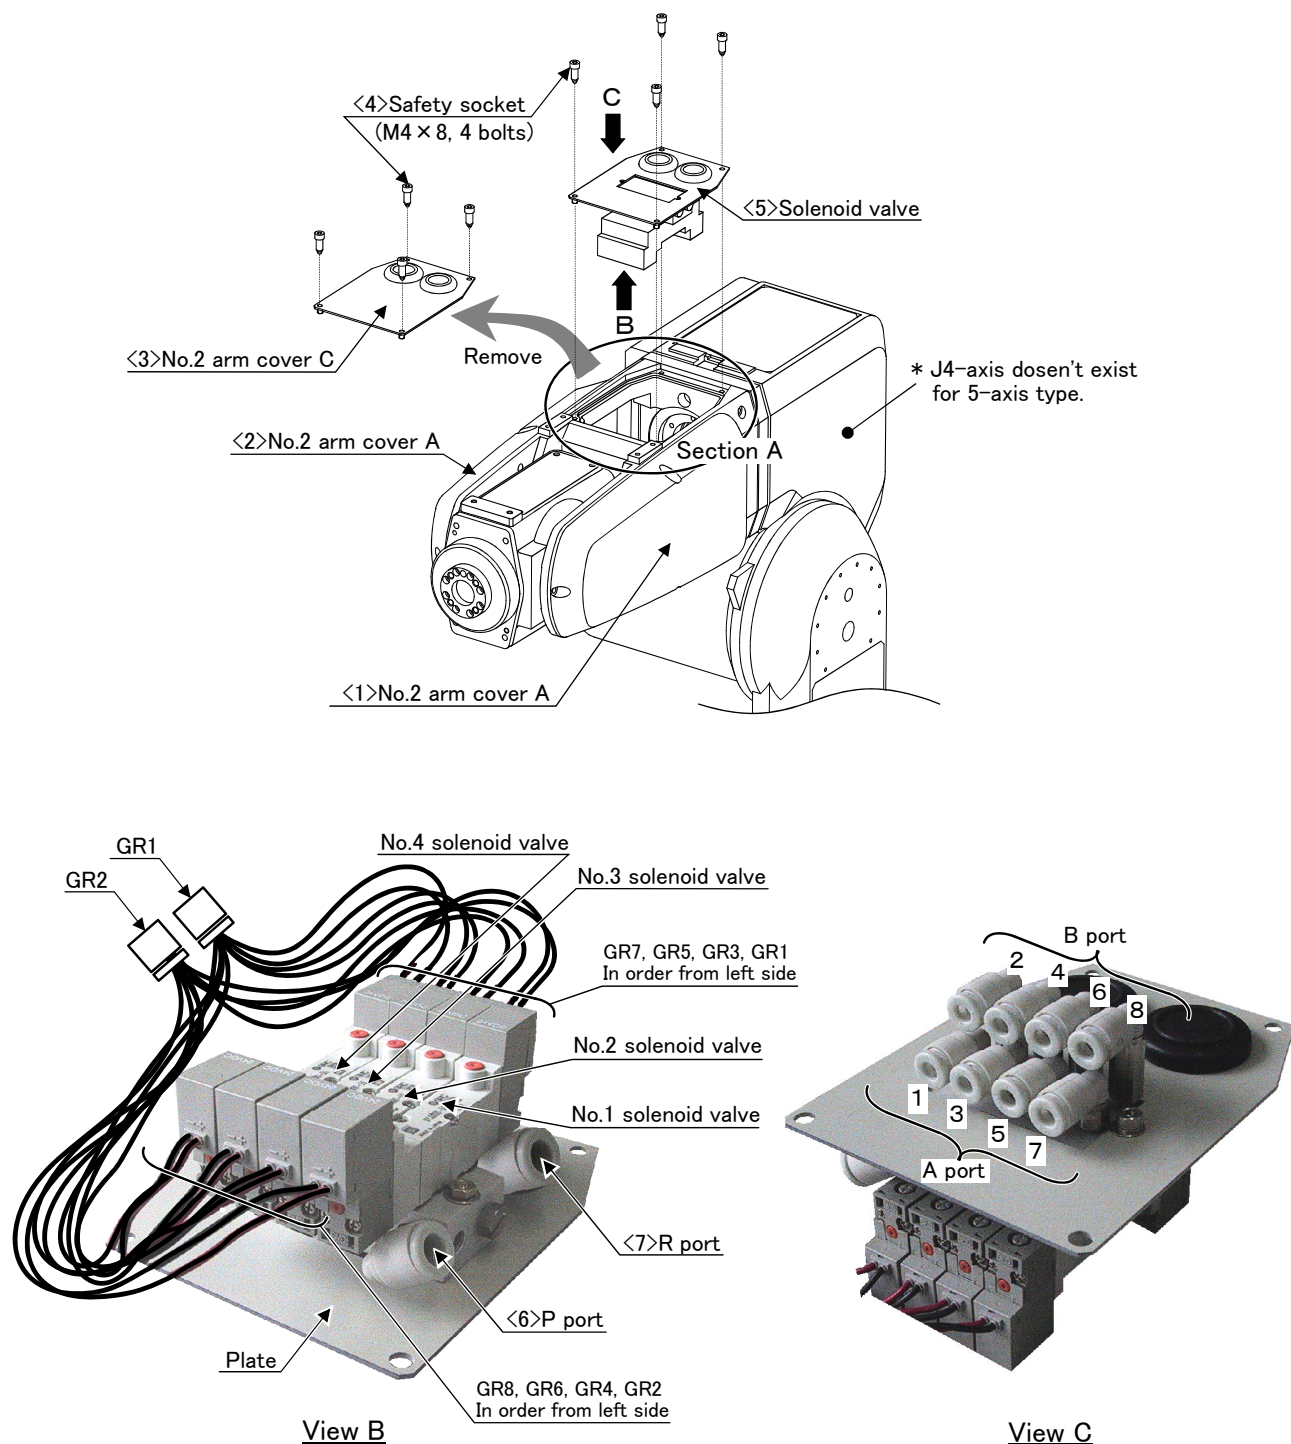
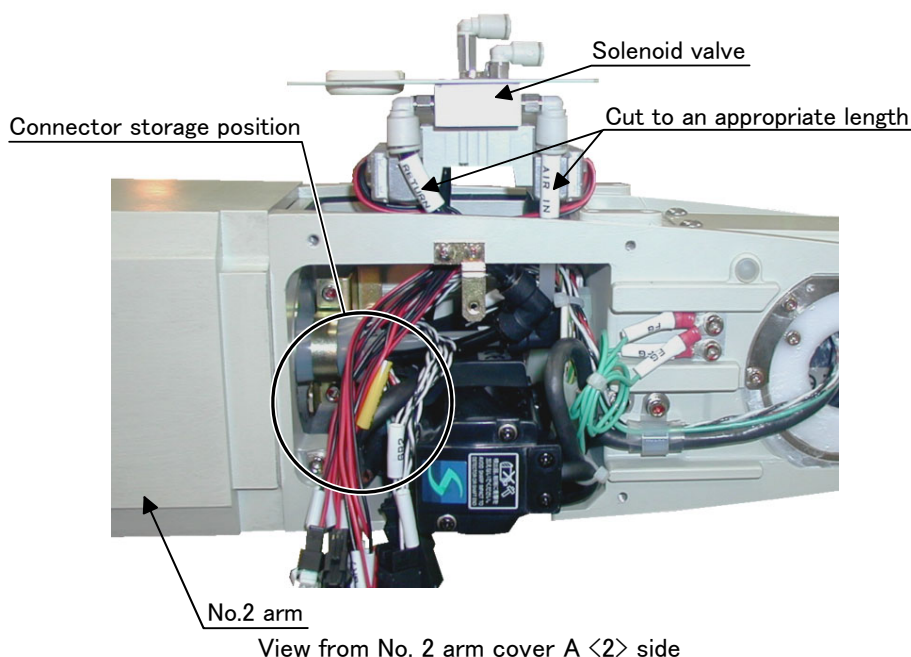
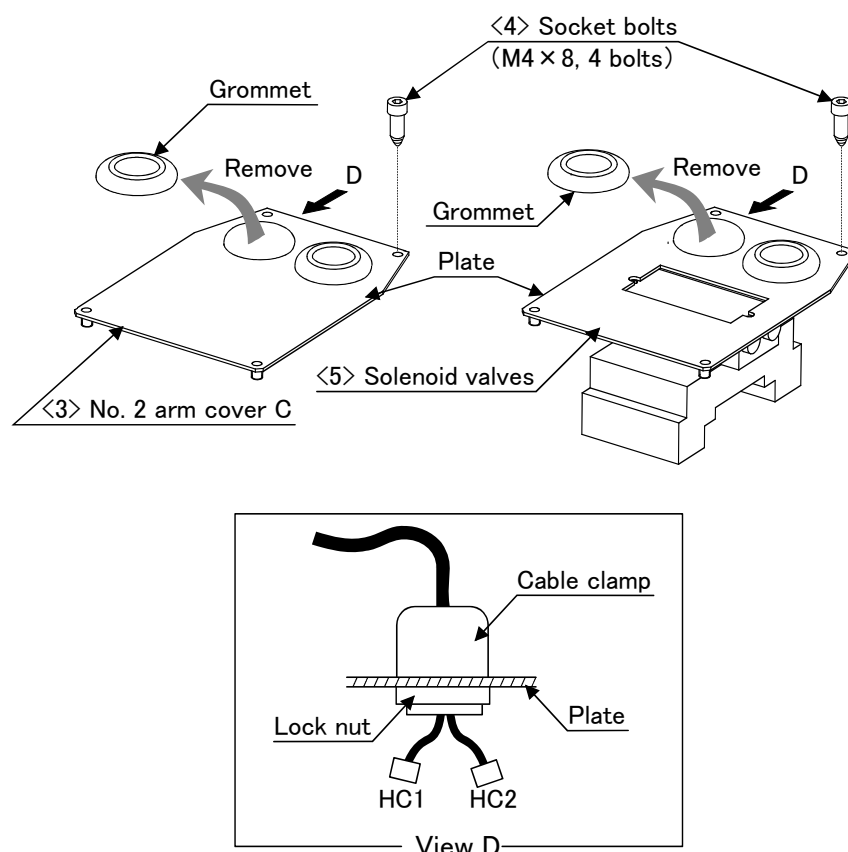
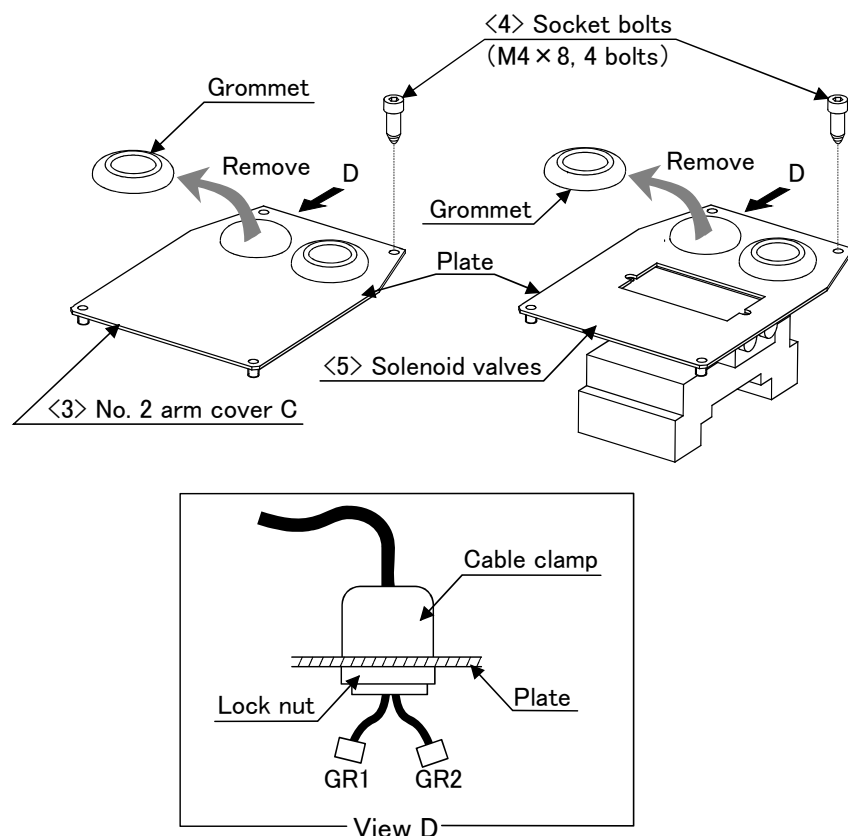

Fig.3-1 : Solenoid valve installation procedures
Fig.3-2 : Solenoid valve installation diagram details 1
Fig.3-4 : Installing the hand input cable
Fig.3-5 : Installing the hand output cable
Fig. 3-1 and Fig. 3-2 shows the solenoid valve installation procedures and the solenoid valve connector connection procedures. The installation procedures are as follow. This work must be carried out with the controller power turned OFF.
- 3) If you are not using the spare line (ADD: stored in a coil) in section A shown in Fig. 3-1, remove it. The spare line is connected to a connector inside section A.
- 7) Connect the connectors of "GR1" and "GR2" stored in section A to the plugs of "GR1" and "GR2" coming out of the solenoid valves. Store the connectors near the location marked with ○ shown in Fig. 3-2. Fig. 3-2 shows a view when stored.
The procedure for installing the hand input cable is as follows. Conduct work by referring to "Fig. 3-1 Solenoid valve installation procedures" on page 32 and "Fig. 3-4 Installing the hand input cable" on page 35 below.
- 7) Connect the connectors of "HC1" and "HC2" stored in section A shown in Fig. 3-1 to "HC1" and "HC2" of the hand input cable.
- 8) Mount the No. 2 arm cover C <3> or the solenoid valves <5> to section A shown in Fig. 3-1. When mounting, be careful not to damage the sponge sealing material attached to the opening of section A. If it is damaged, the protection performance may be lowered.
The procedure for installing the hand output cable is as follows. Conduct work by referring to "Fig. 3-1 Solenoid valve installation procedures" on page 32 and "Fig. 3-5 Installing the hand output cable" on page 36 below.
- 7) Connect the connectors of "GR1" and "GR2" stored in section A shown in Fig. 3-1 to "GR1" and "GR2" of the hand output cable.